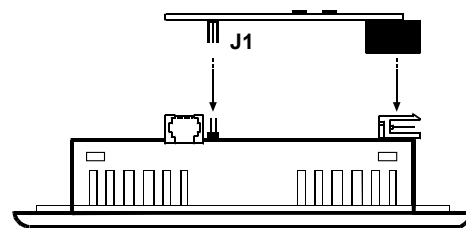

Figure 4. Installing the Module
6. Install the module by placing the J1 connector (female) of the module onto the J3 connector (male) on the controller card as shown in Figure 4. Make sure that the connection is secure.